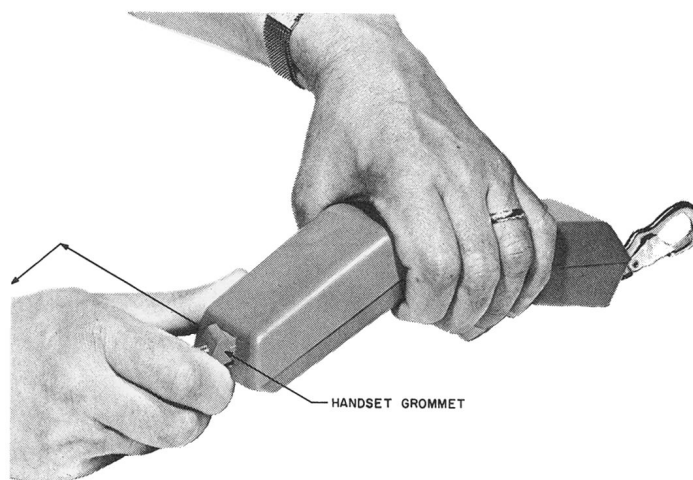
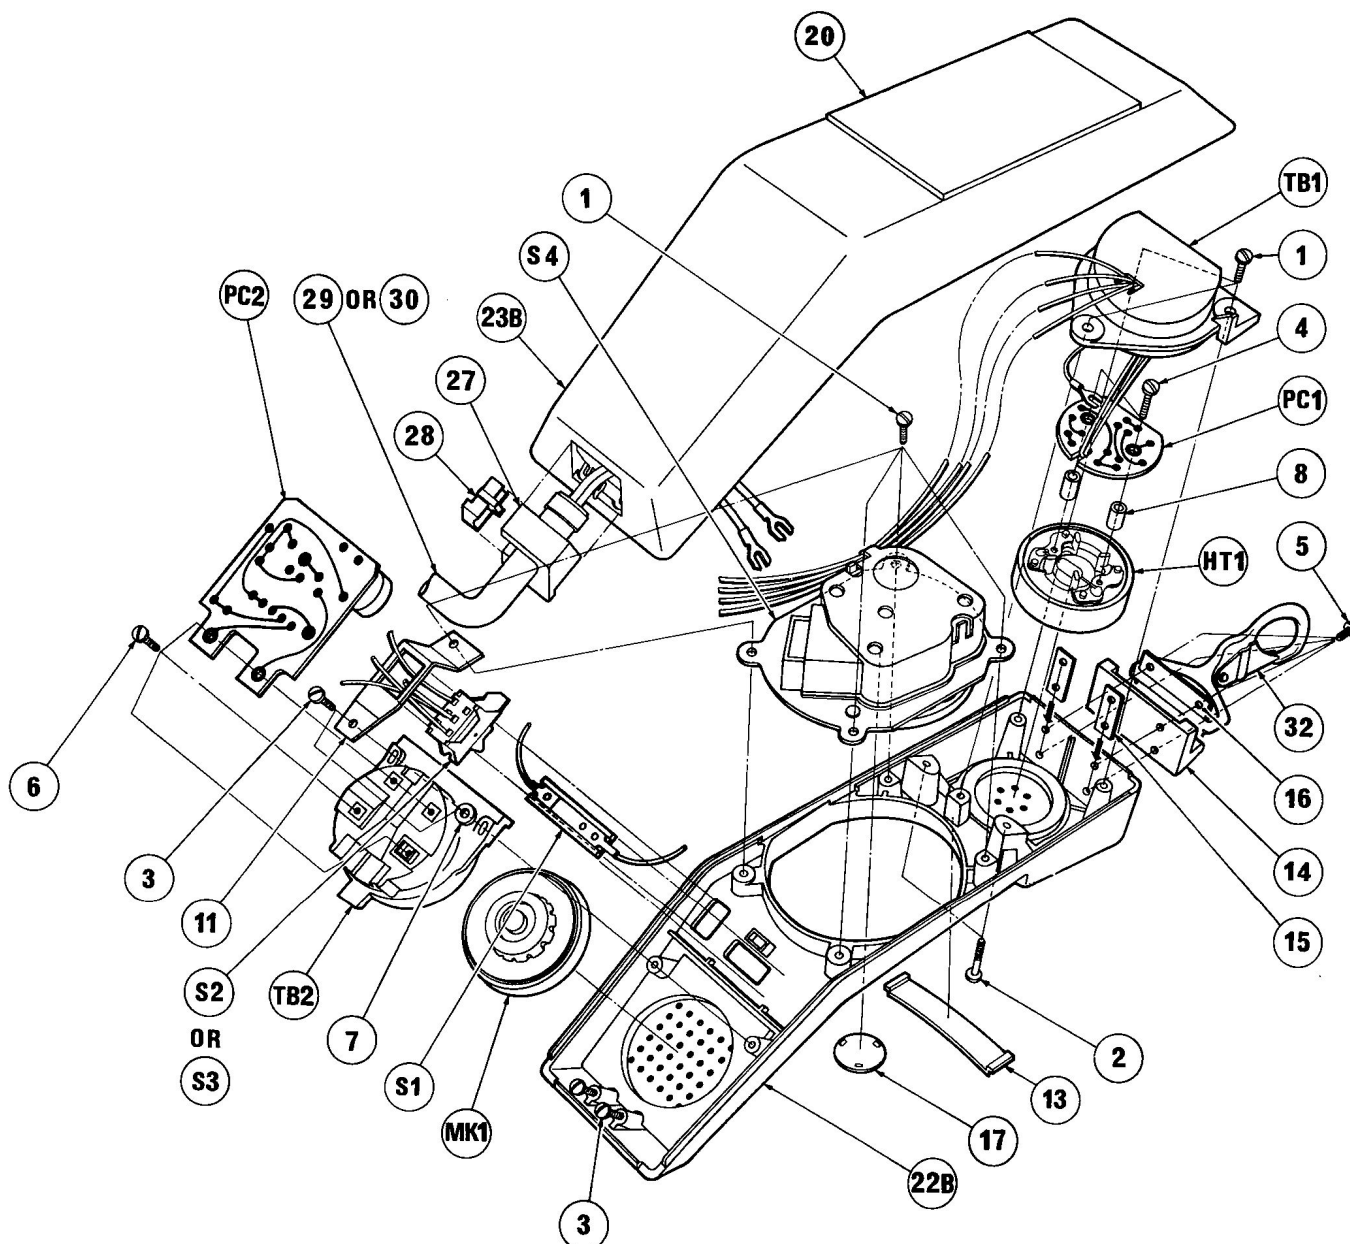

Fig. 8 — Removal of Handset Grommet
Fig. 9 — QSE4 Type Handsets — Assembly of Parts
1.08 Identification and assembly of parts is shown in Fig. 9 and Table C.
### 4.02 Disassembly of Handset (see Fig. 8 and 9) (item Nos. refer to Fig. 9).
(1) To remove the card retainer window (item 13), insert the tip of an NS-16750 L3 Releaser into the small slotted hole at the edge of the window. Ensure that the tip does not enter the hole by more than one-eighth of an inch, as an underlying screw may hinder the lateral motion of the releaser. Apply a slight lateral pressure to the handle of the releaser. The housing projection provides a fulcrum and this will bow the window upward so that its edges may be grasped with the fingertips of the other hand to spring it out.
(2) Remove the handset line cord grommet (items 27 and 28, Fig. 9) by turning the handset face down and pushing the cord into the grommet to release the pressure on the inside of the grommet, then exerting a lateral pressure, towards the rocker switch and an upward pressure (while retaining the lateral pressure), until the grommet comes out of the housing (see Fig. 8). This grommet is in two pieces.
(3) Once the grommet has been withdrawn, two screws (item 3) are exposed. Loosen these two screws by about three-sixteenths of an inch only, as it is not desirable or necessary to remove them.
(4) Free (do not remove) the two captive screws (item 2) in the card retainer well. Loosen the receiver end, then slide the smooth (back) half of the handset housing back to release this section from the slotted screw holes.
#### 4.10 To Convert QSE4A Type to QSE4B Type (see Fig. 9 and 10):
- 5.01 Table C lists the components of the QSE4 type Handset as shown in Fig. 9.